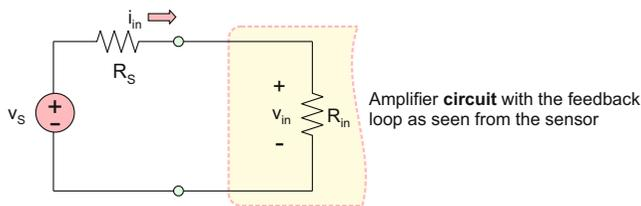

Fig. 5.19. Sensor’s equivalent circuit and amplifier’s equivalent circuit as seen from the sensor.
A sensor (input load to an amplifier circuit) “sees” an amplifier circuit as a simple resistance  $R_{in}$  as depicted in Fig. 5.19. The sensor is represented by its Thévenin equivalent circuit.
The general-purpose operational amplifier is a *voltage amplifier* (also called a *signal amplifier*) and not a *power amplifier*. The input voltage matters, not the input power. For the voltage divider circuit in Fig. 5.19, the input voltage  $v_{in}$  to the amplifier circuit is *maximized* when  $R_{in}$  is maximized. Therefore,  $R_{in}$  must satisfy the inequality
**Example 5.5:** A sensor is given by its Thévenin equivalent circuit in Fig. 5.19 where the sensor voltage  $v_S$  is small. The sensor’s equivalent resistance  $R_S$  is  $100\ \Omega$ . An inverting amplifier circuit is needed to generate an amplified version of the sensor’s voltage. The output voltage should be  $\approx -100v_S$ .
**Example 5.6:** A sensor is given by its Thévenin equivalent in Fig. 5.19 where the sensor voltage  $v_S$  is small. The sensor's equivalent resistance  $R_S$  may vary in time but is always less than  $100\ \Omega$ . An inverting amplifier is needed that generates an amplified version of the sensor's voltage, which is  $\approx -100v_S$ .
Assume that we need an inverting amplifier with an overall gain of  $-1000$ . The input to the amplifier is a sensor as in Fig. 5.19 with the equivalent resistance given by  $R_S = 1\ \text{k}\Omega$ . If we require load bridging according to Eq. (5.35), we arrive at
**Example 5.8:** The input to the amplifier is a sensor in Fig. 5.19 with an equivalent resistance given by  $R_S = 100 \ \Omega$  and an equivalent sensor voltage,  $v_S$ . An amplifier circuit is needed that generates  $\sim 10,000 v_S$  at its output. The load bridging condition must be satisfied.